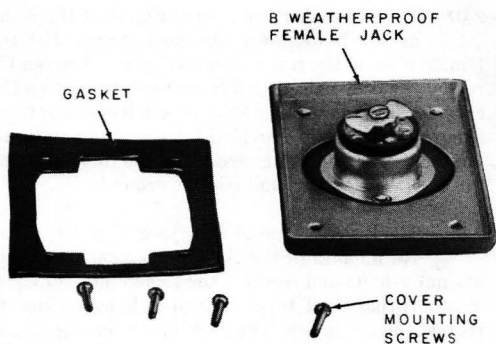

Fig. 7—B Weatherproof Male Jack
2.08 The B weatherproof male jack (Fig. 7, 8, 9, and 10) mounts in the B outlet box on the recreational vehicle and receives the female plug of the B weatherproof cord to provide telephone service to recreational vehicles. The jack has a spring-loaded hinged cover to make it weatherproof when not in use. Three screw terminals stamped R, T, and GR on the rear of the jack provide connection to ring, tip, and ground, respectively.
- One B weatherproof male jack mounted on recreational vehicle (Fig. 7)